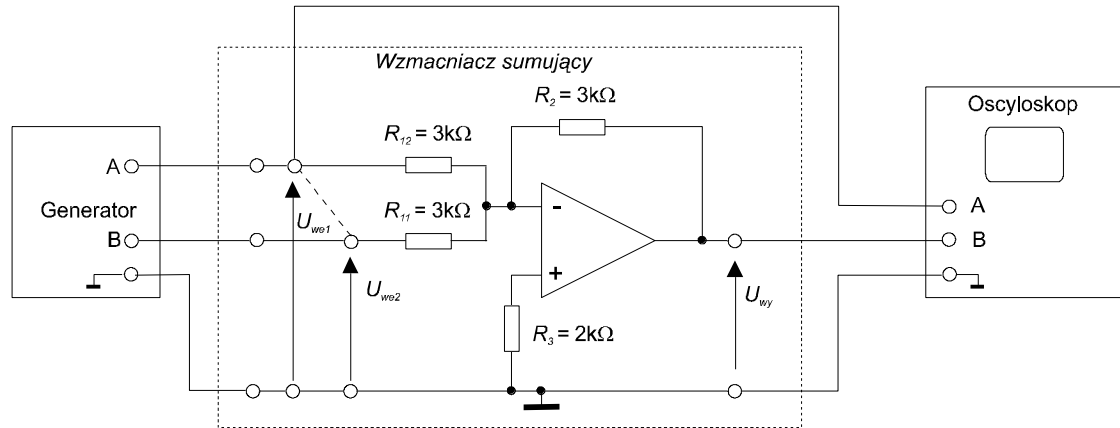

Fig. 9.3.6. A system for analyzing the sumator.
- Connect the measuring system from fig. 9.3.6. where $R_{11} = R_{12} = 3 \text{ k}\Omega$, $R_2 = 3 \text{ k}\Omega$, $R_3 = 2 \text{ k}\Omega$. Redraw the sum circuit diagram. At the input of the system, give two sinusoidal signals with frequency from the generator $f = 1 \text{ kHz}$ and the same amplitudes $U_{we1} = U_{we2} = 0.1 \text{ V}$.